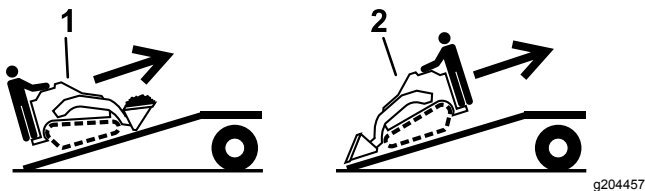

Figure 28
5. Load the machine onto the trailer with the heavy end up the ramp, carrying loads low (Figure 28).